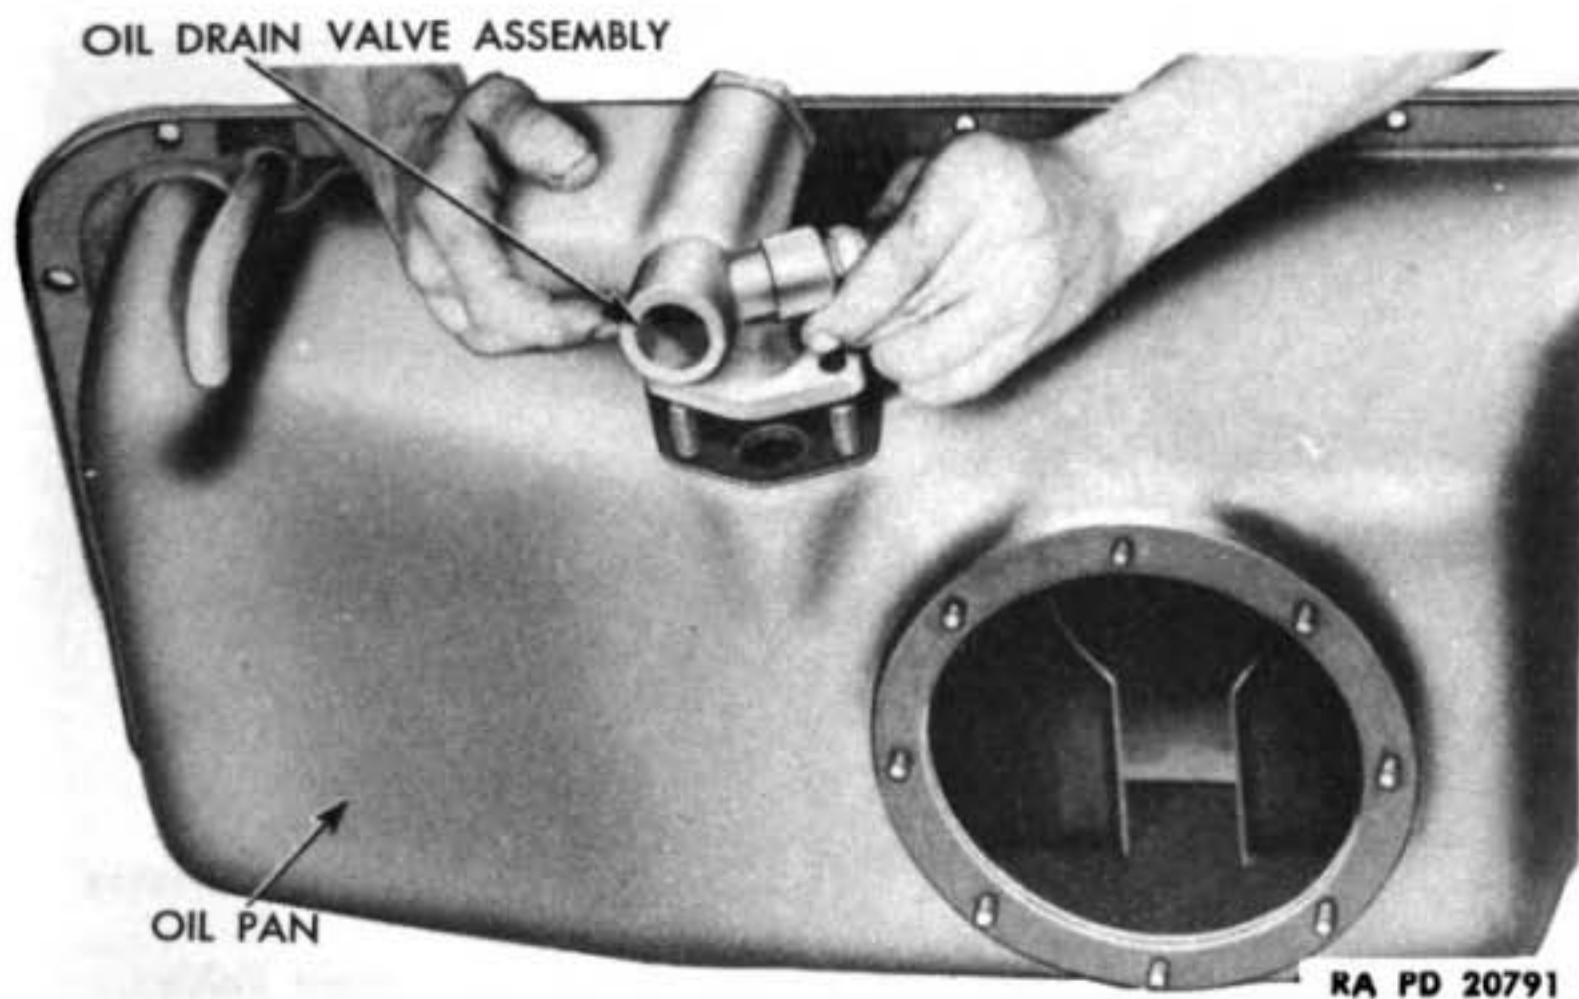
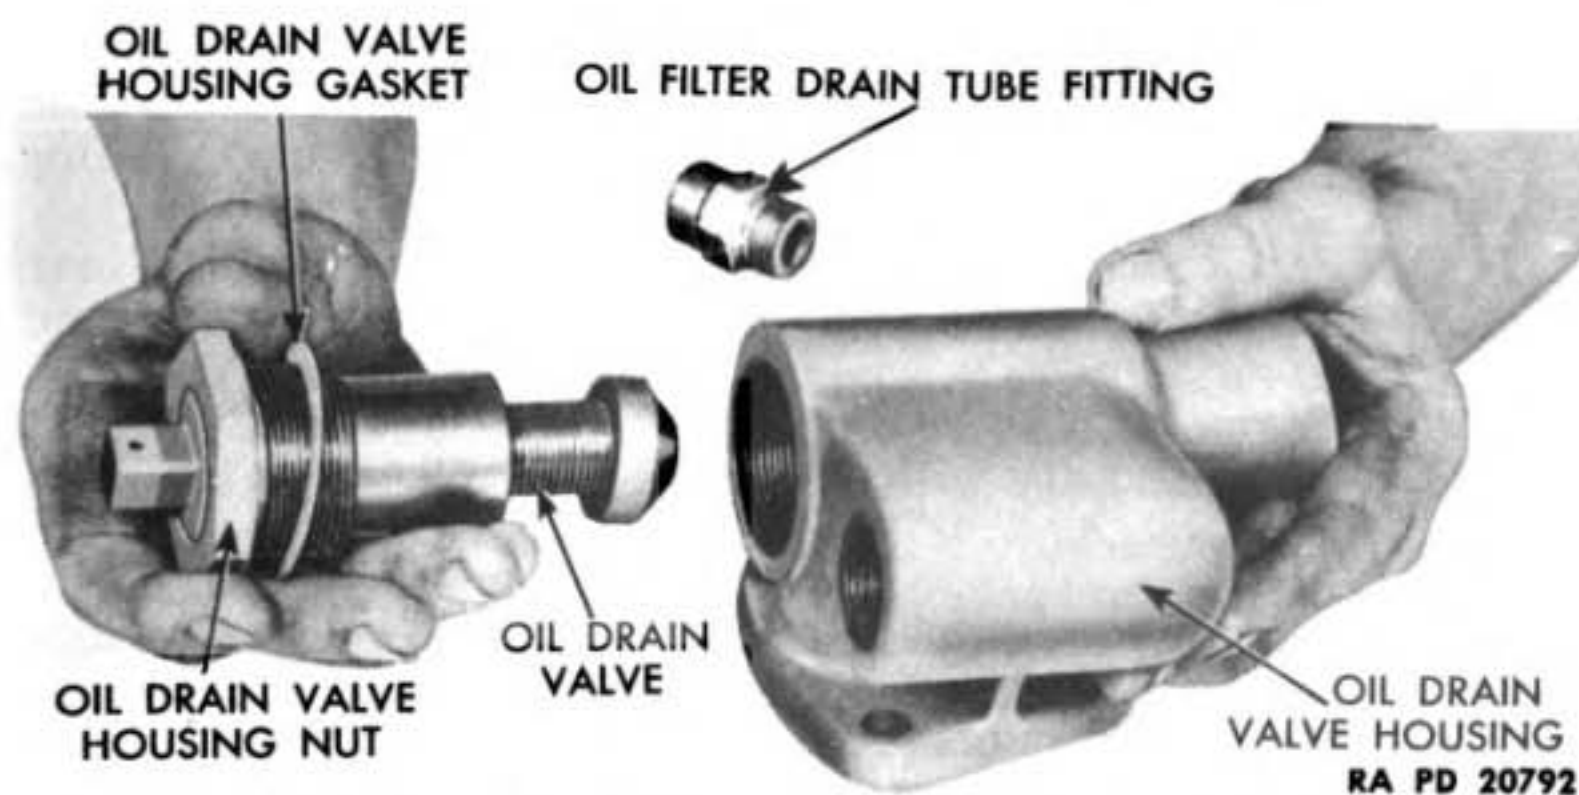
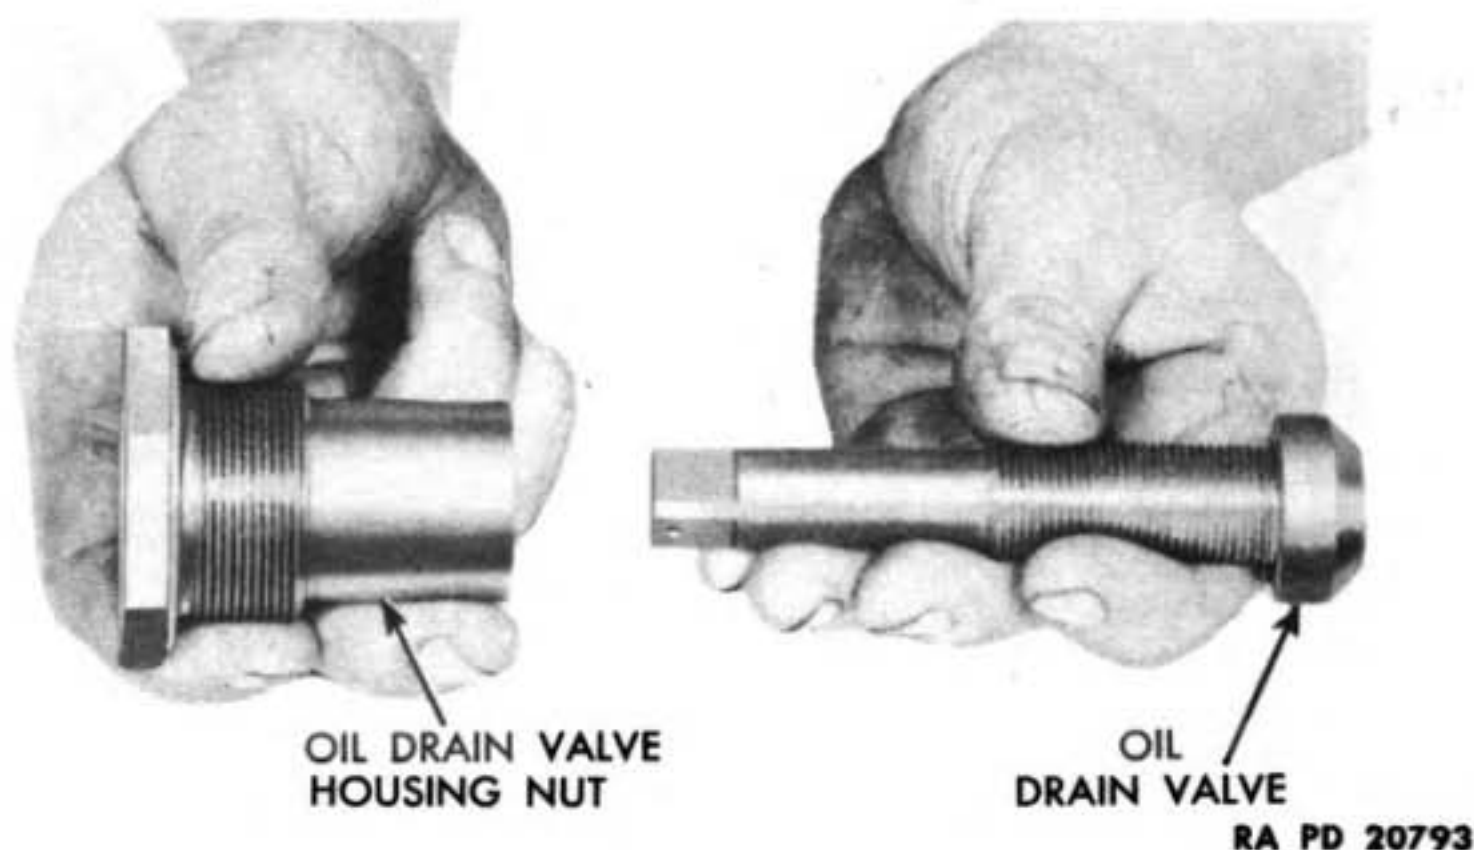

Figure 59 — Removing Oil Drain Valve Assembly
Figure 60 — Removing Oil Drain Valve From Oil Drain Valve Housing
Figure 61 — Removing Oil Drain Valve Housing Nut From Valve
a. Disassemble. Remove eight nuts and lock washers, and lift off hand-hole cover (fig. 57). Remove eight nuts and lock washers, and lift off front scavenger oil pump screen (fig. 58). Use same procedure to remove rear screen. Remove four nuts and lock washers, and lift off oil drain valve assembly (fig. 59). Remove oil drain valve from housing (fig. 60). Remove oil drain valve from housing nut (fig. 61).
(1) **OIL DRAIN VALVE.** Assemble valve housing nut on drain valve (fig. 61). Using a new copper-asbestos gasket, screw the housing nut with valve into the oil drain valve housing (fig. 60) and tighten it.
(2) **OIL PAN.** Shellac a new gasket on the oil pan drain valve assembly. Mount the oil drain valve assembly on the four studs on the side of the oil pan with four lock washers and nuts (fig. 59). Tighten all four nuts evenly. Shellac a new gasket on oil pan hand-hole cover. Install cover on oil pan with eight lock washers and nuts (fig. 57). Tighten nuts evenly. Assemble the two scavenger oil pump screens to their studs inside the oil pan with 16 lock washers and nuts, and tighten (fig. 58).